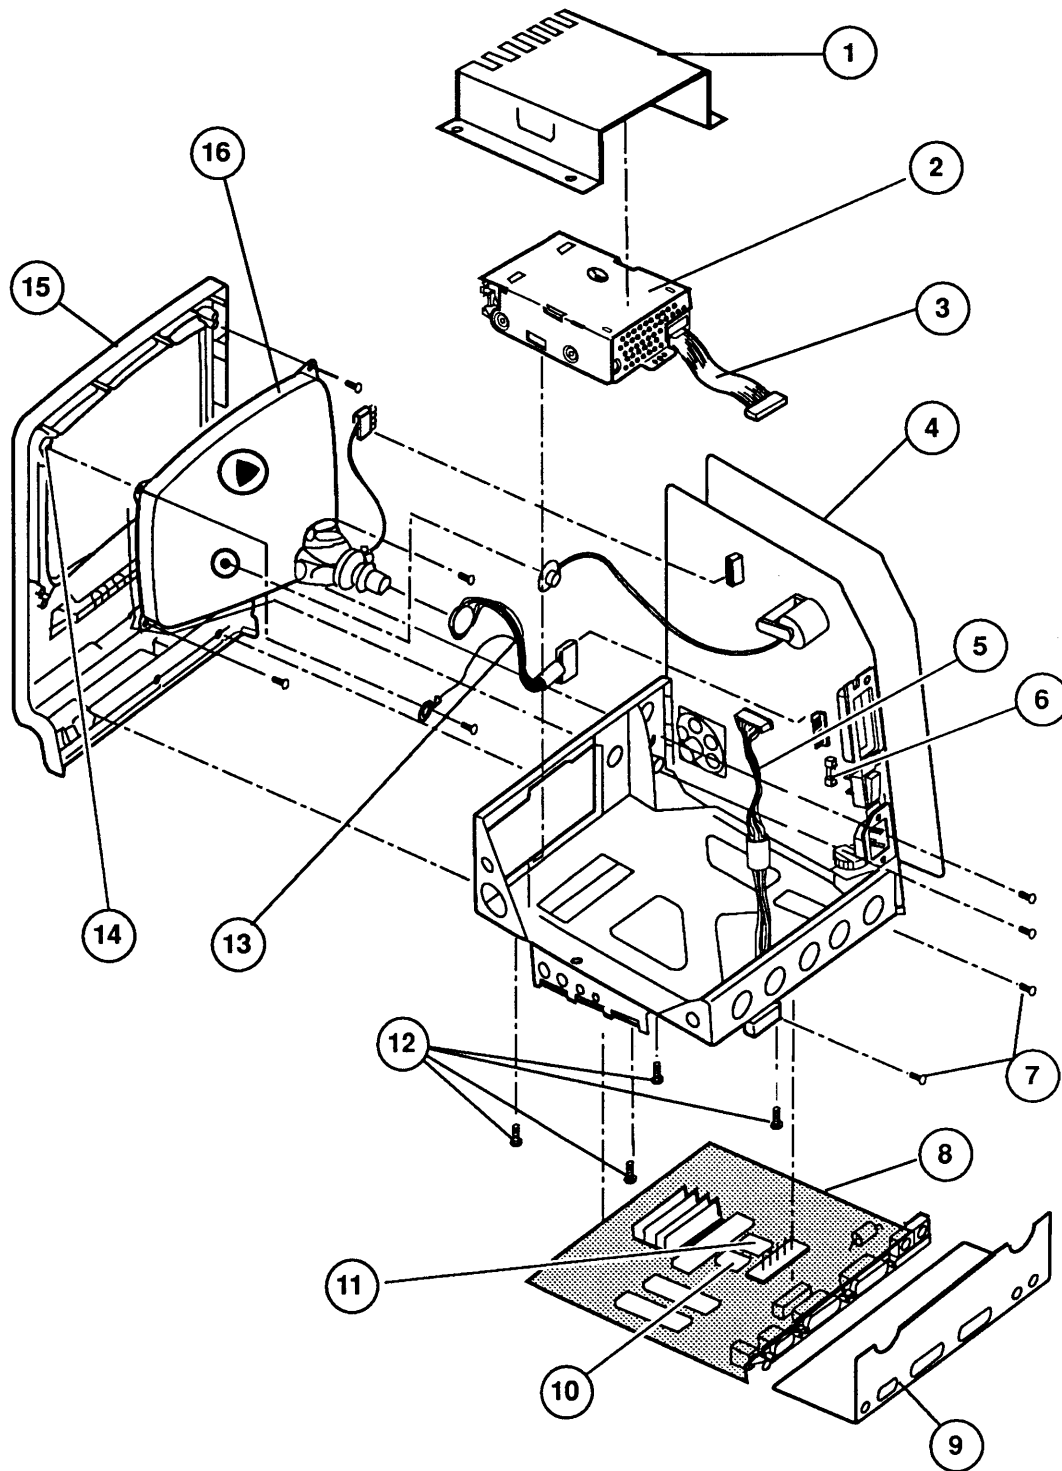

FIGURE 3
□ MACINTOSH – EXPLODED VIEW (Figure 3)